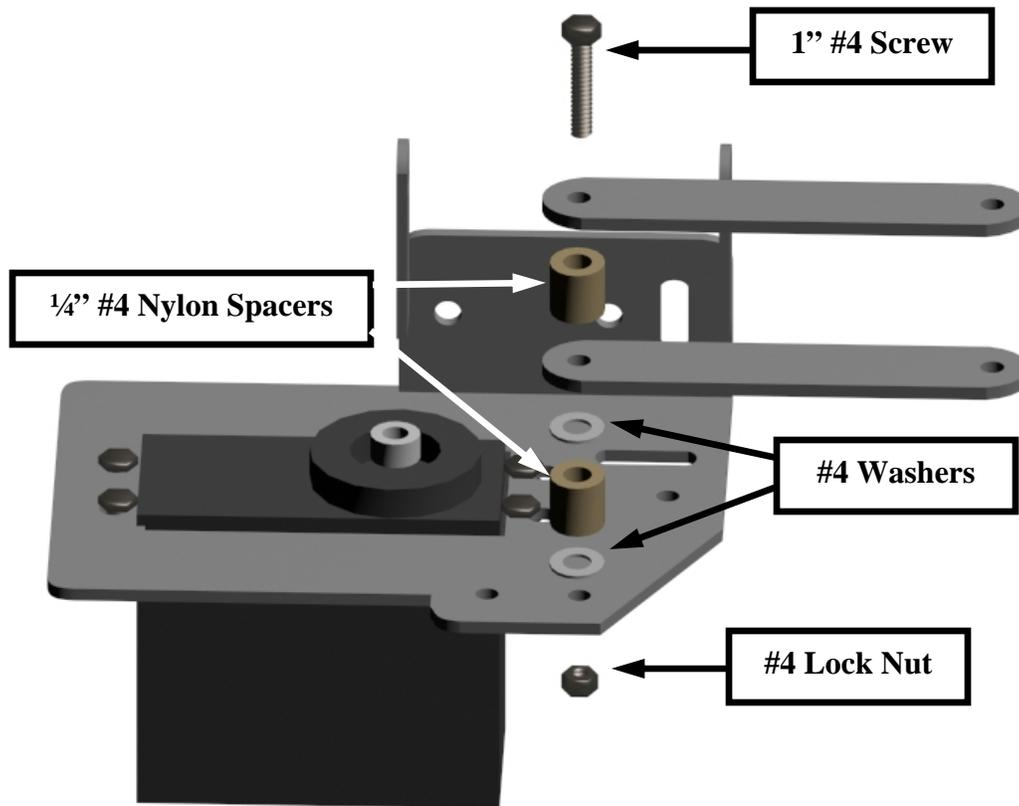

Figure 18
12. Using (1) 1" #4 screw, (2) washers, (2) 1/4" nylon spacers and (1) lock nut, install the flat braces to the inside of the palm as shown in figure 18.